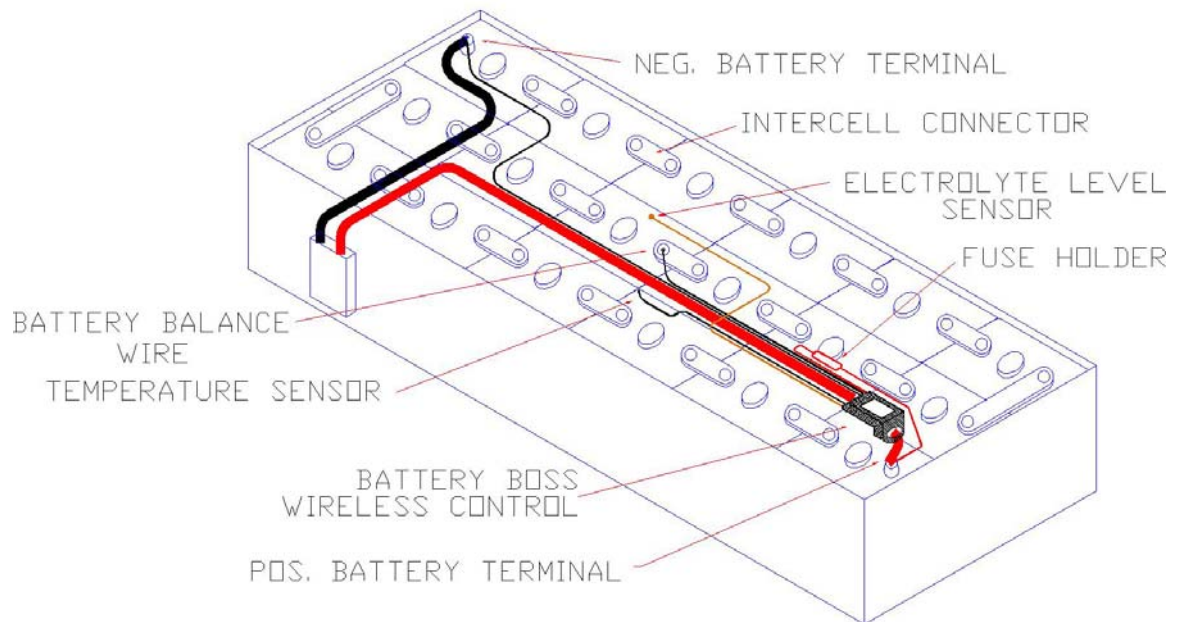

FIG. 3
- 6) Using a #29 or 1/8" drill bit, drill a hole about 1/4" deep in the positive and negative battery posts. Additionally, drill a hole in the negative inter-cell connector closest to the middle of the battery. This should be a cell where the most heat buildup and water usage will normally occur. Depending on the battery layout this may or may not coincide with the numerical center of the battery. For example on an 18 cell battery with a 3 x 6 layout, the middle inter-cell would be the negative post on the 9th cell from the negative battery terminal. (See fig. 3). **CAUTION: DO NOT EXCEED 20 CELLS FROM THE NEGATIVE TERMINAL OF THE BATTERY.**